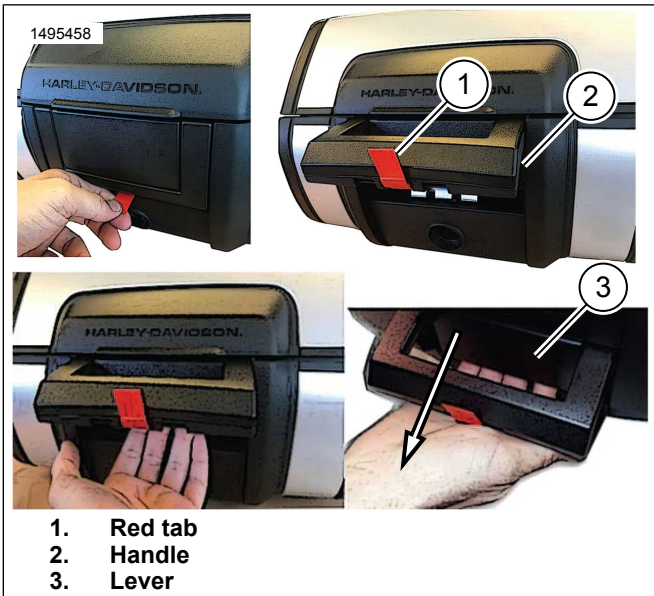
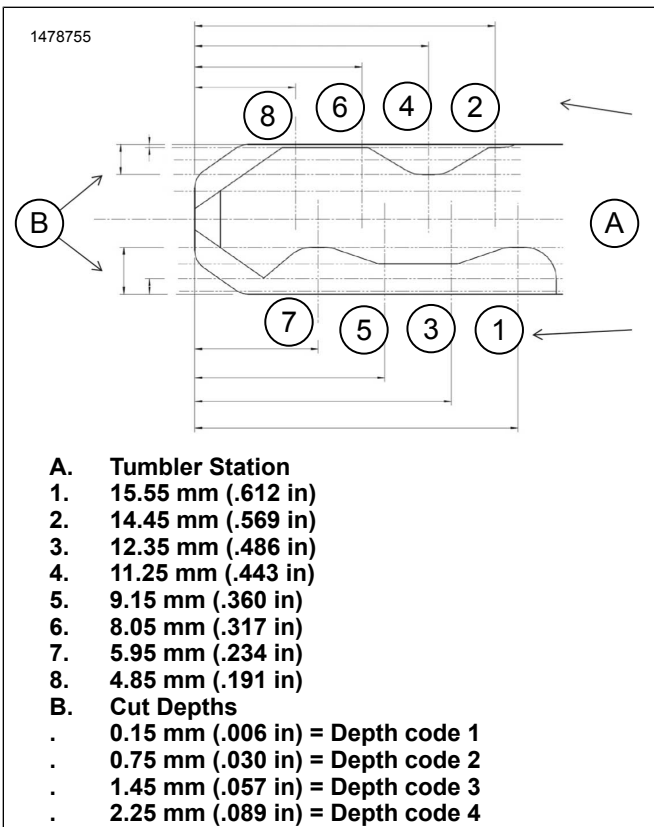

Figure 2. Open Top Case
Figure 3. Key Code Diagram
1. Figure 2 Open top case and locate lockset.
- a. Pull on red tab (1) to release handle (2).
- b. Pull lever (3) beneath handle to open lid.
2. Figure 3 On Original Equipment (OE) vehicle key, determine cut depth at each key station.
4. Table 3 Write key depth codes from Figure 3 based on cut depths measured.